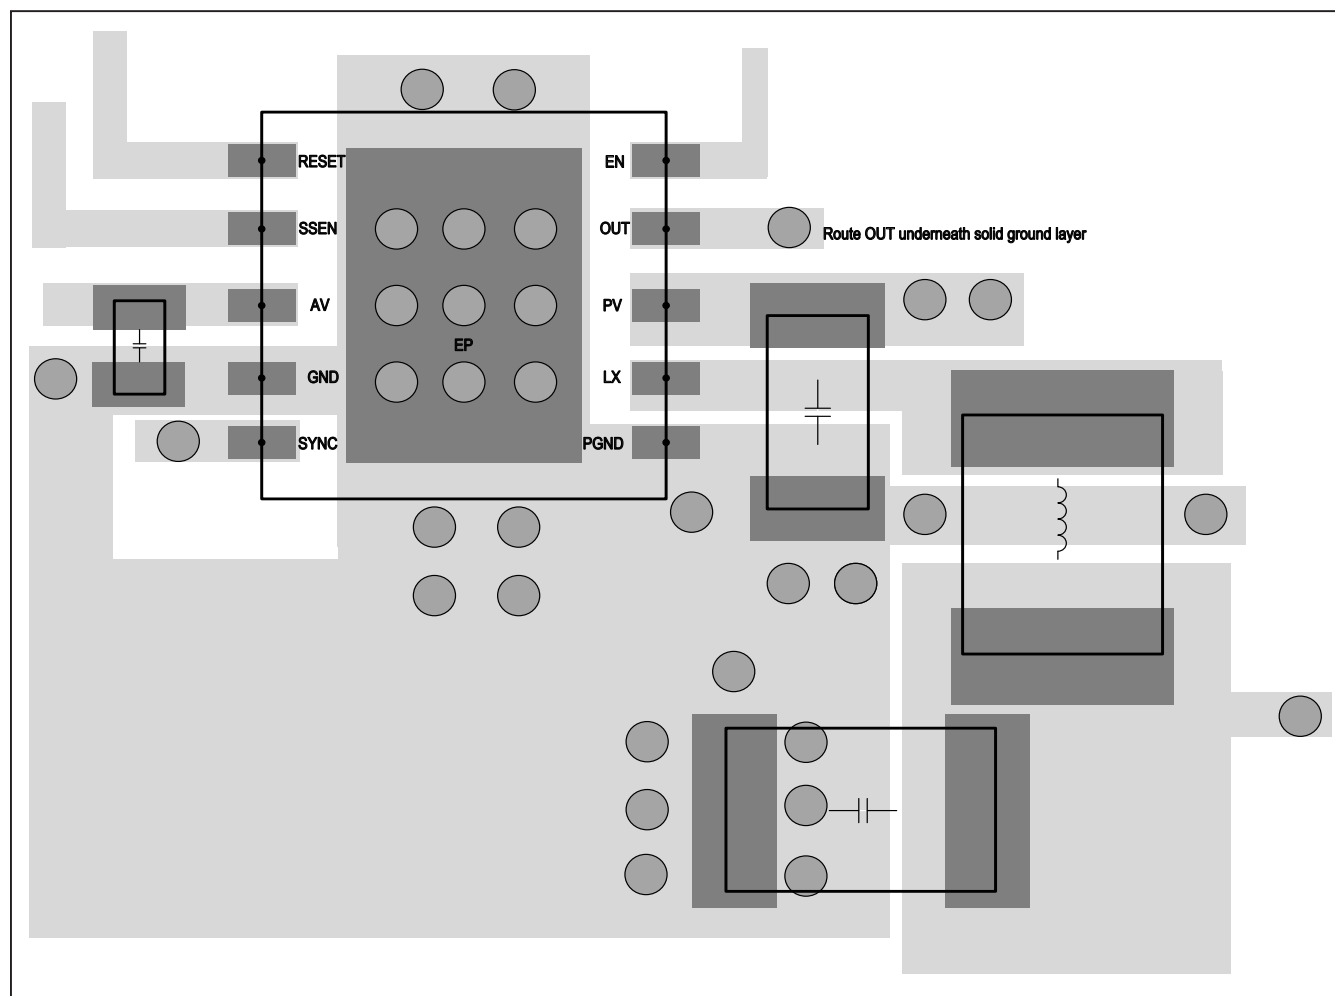

Figure 2. Example Layout of IC and DC-DC Components
- Place several vias in the exposed pad (EP) and connect them all to ground layers below the part. EP is attached to the die with epoxy, making it a good method for transferring heat out of the IC. An array of 0.3mm-diameter vias is recommended.
- The layer directly below the IC and DC-DC components should be a solid ground plane. Connect the GND and PGND pins of the device and components together with a low-impedance connection and add several vias to ground near those pins. Do not split the ground plane at or near the circuit. See Figure 2 for an example layout of the IC and DC-DC components.